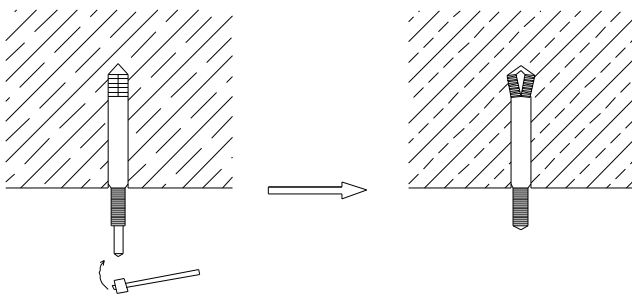

Figure 8.1
a. Insert M10 expansion bolt into the hole, then knock the nails into the bolt, for the pitch referring to figure 8.1, the installation of expansion bolts is shown in figure 8.1.